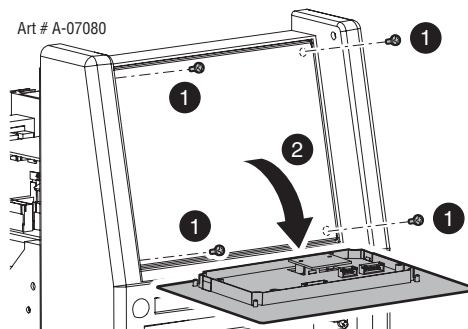

Figure 11-2: VRD ON/OFF Step B
B) Remove the four mounting screws from the the control panel (see Figure 11-2).